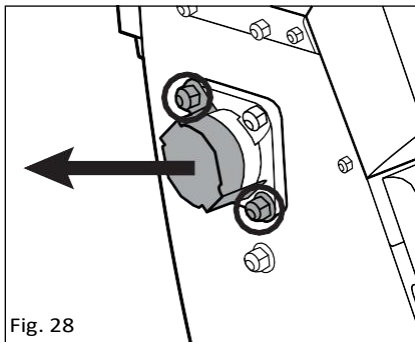

Fig. 28
3. To allow access to the blade shaft remove the two nuts from the blade shaft cover (14) (fig. 28 ).